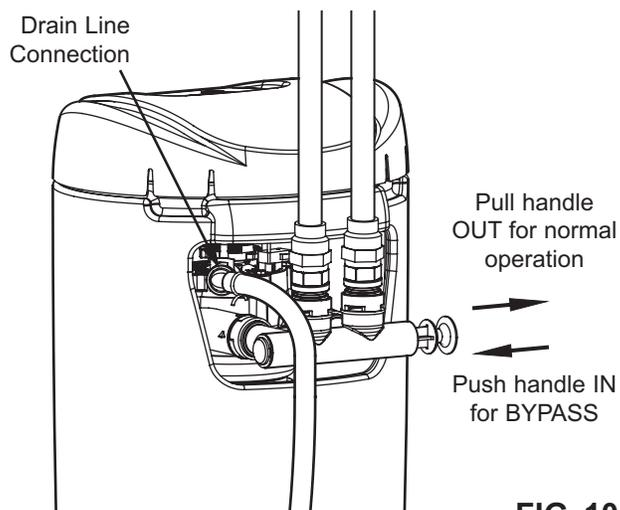

FIG. 10
1. Measure, cut to needed length and connect the 3/8" drain line (provided) to the Whole Home Water Filtration System valve drain fitting (See Figure 10). Use a hose clamp to hold the hose in place.
1. Make sure the single bypass valve (or 3 valve bypass, if installed) is in the bypass position, with the handle pushed in (See Figure 10).
4. Place the bypass valve(s) in normal operation position, with the handle pulled out (See Figure 10).